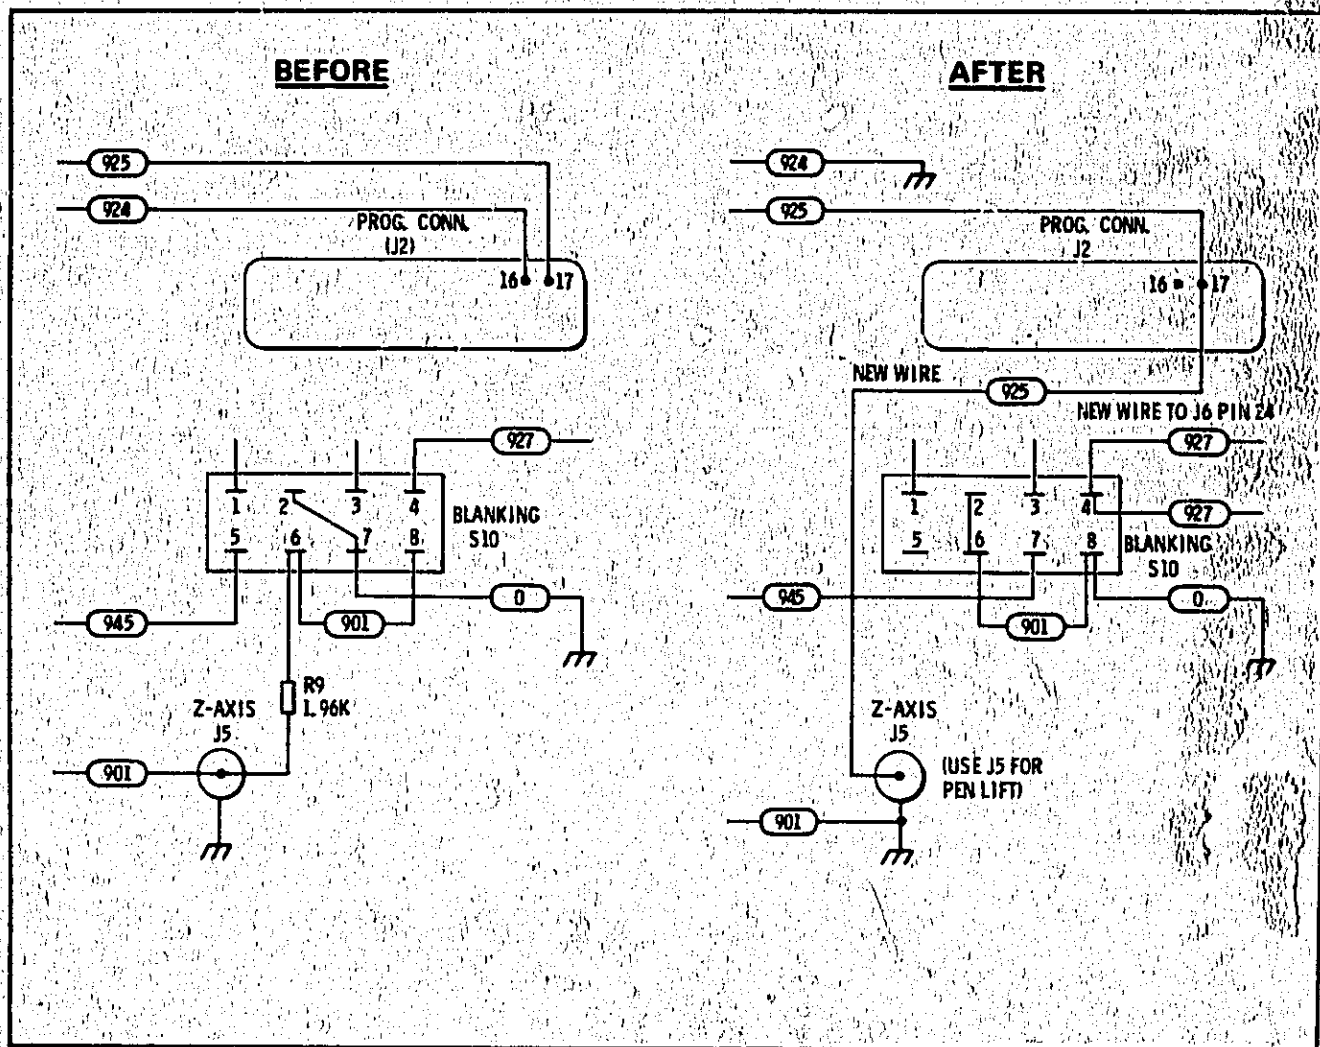

Figure 1. Blanking Switch Wiring Diagram Before And After Modification
3. Cut the white/red/yellow (924) wire from the Programming Connector J2 Pin 16. Refer to Figure 1.
4. Connect the (924) wire just cut to the ground at Pin 6 of S10.
5. Remove the white/black/brown (901) wire and R9 1960 ohm resistor from the center conductor of the Z Axis output connector J5.
6. Connect the (901) just removed to the ground, Pin 6 of S10.
7. Modify the wiring to the Blanking Switch S10 on the rear panel as follows: (S10 is the three position slide switch located nearest the fan.) Refer to Figure 1 for S10 Pin location.
- A. Move the white/yellow/green (945) wire from Pin 5 to Pin 7.
- B. Move the black (0) wire from Pin 2 to Pin 8.
8. Connect one end of the white/red/green (925) wire from the Modification Kit to the programming connector J2, Pin 17.
9. Connect the other end of the (925) wire to the center conductor of the Z Axis output J5.
10. Connect one end of the white/red/violet (927) wire from the Modification Kit to the RF Section's interface connector J6, Pin 24. To gain access to J6 remove the mounting screws from the rear panel.
12. Connect the other end of the (927) wire to Pin 4 of S10.